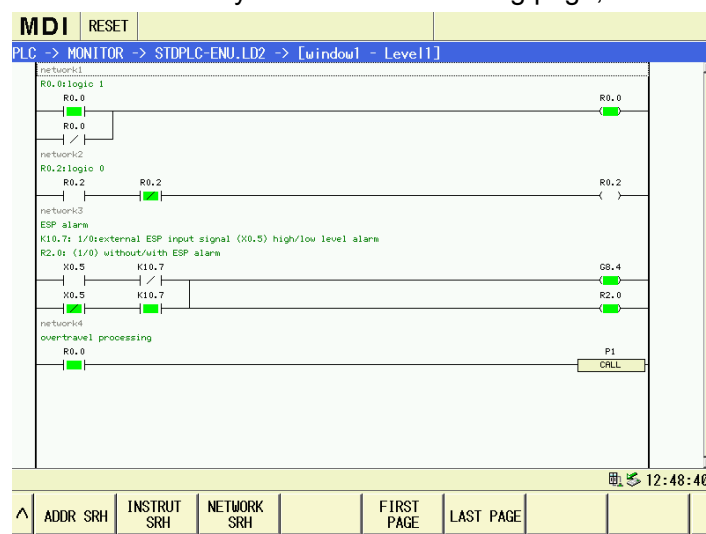

Fig.3-24
(2) Press  software key to enter the searching page, which is shown in Fig.3-24: